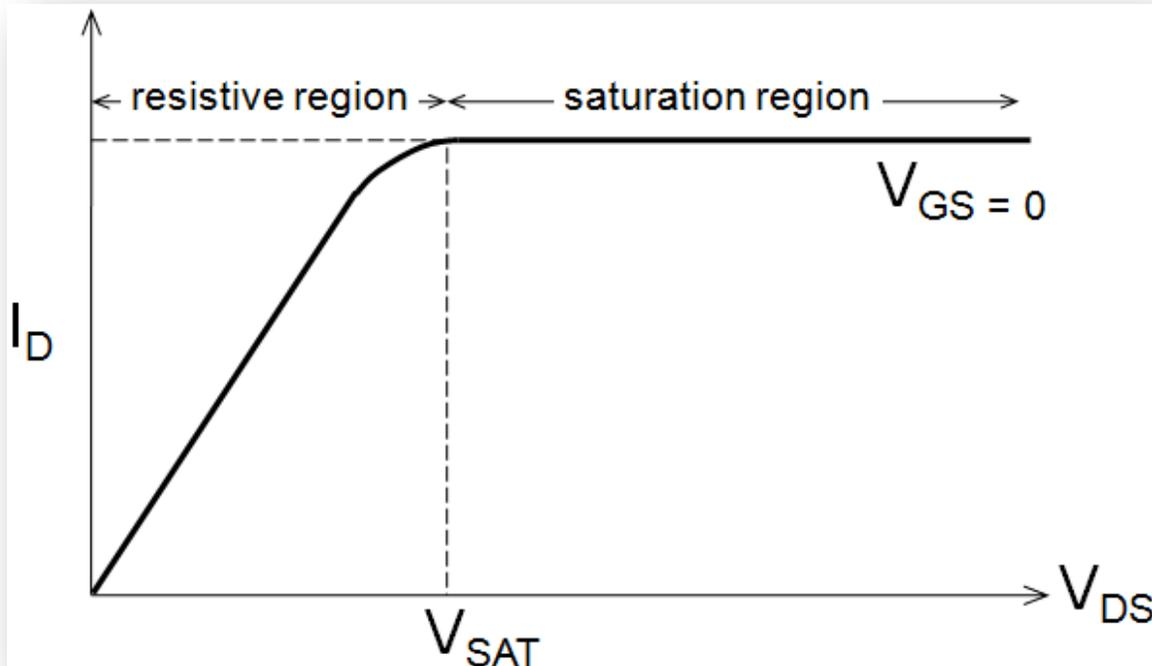

Figure 2  $V_{GS} = 0V$  Basic Input/Output Relationship
**Note:** Some current flows even with zero gate-source voltage  $V_{GS}$  at larger values of drain-source voltage  $V_{DS}$ . The basic input/output relationship for  $V_{GS} = 0V$ , gate and source are connected to each other, as illustrated in Figure 2.
While Figure 2. illustrates a single curve, what designers really use is a graph with a family of curves, Figure 3.